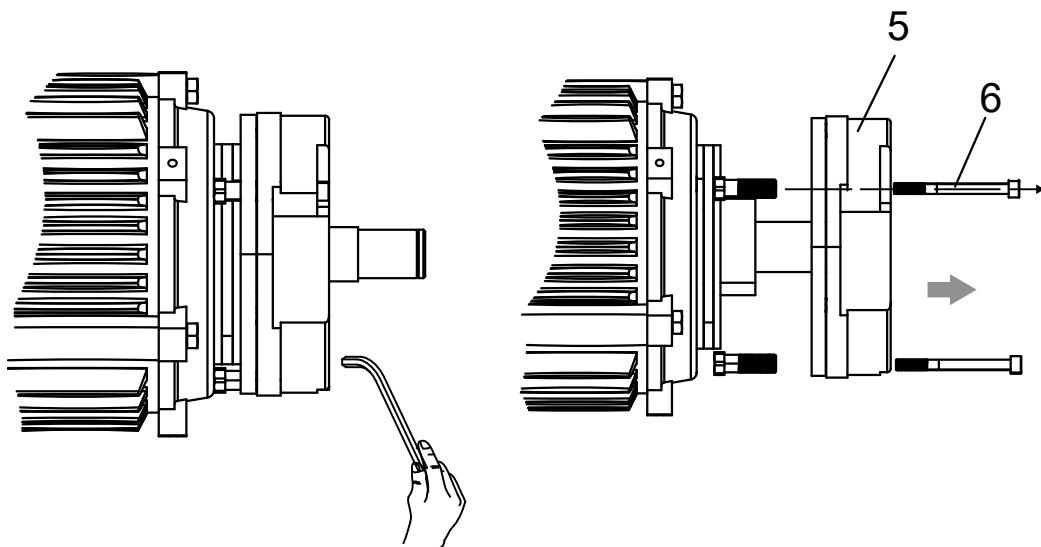

Fig. 6-20b
- See Fig. 6-20b, loosen the fixing screws ⑤, and remove the brake ⑥.